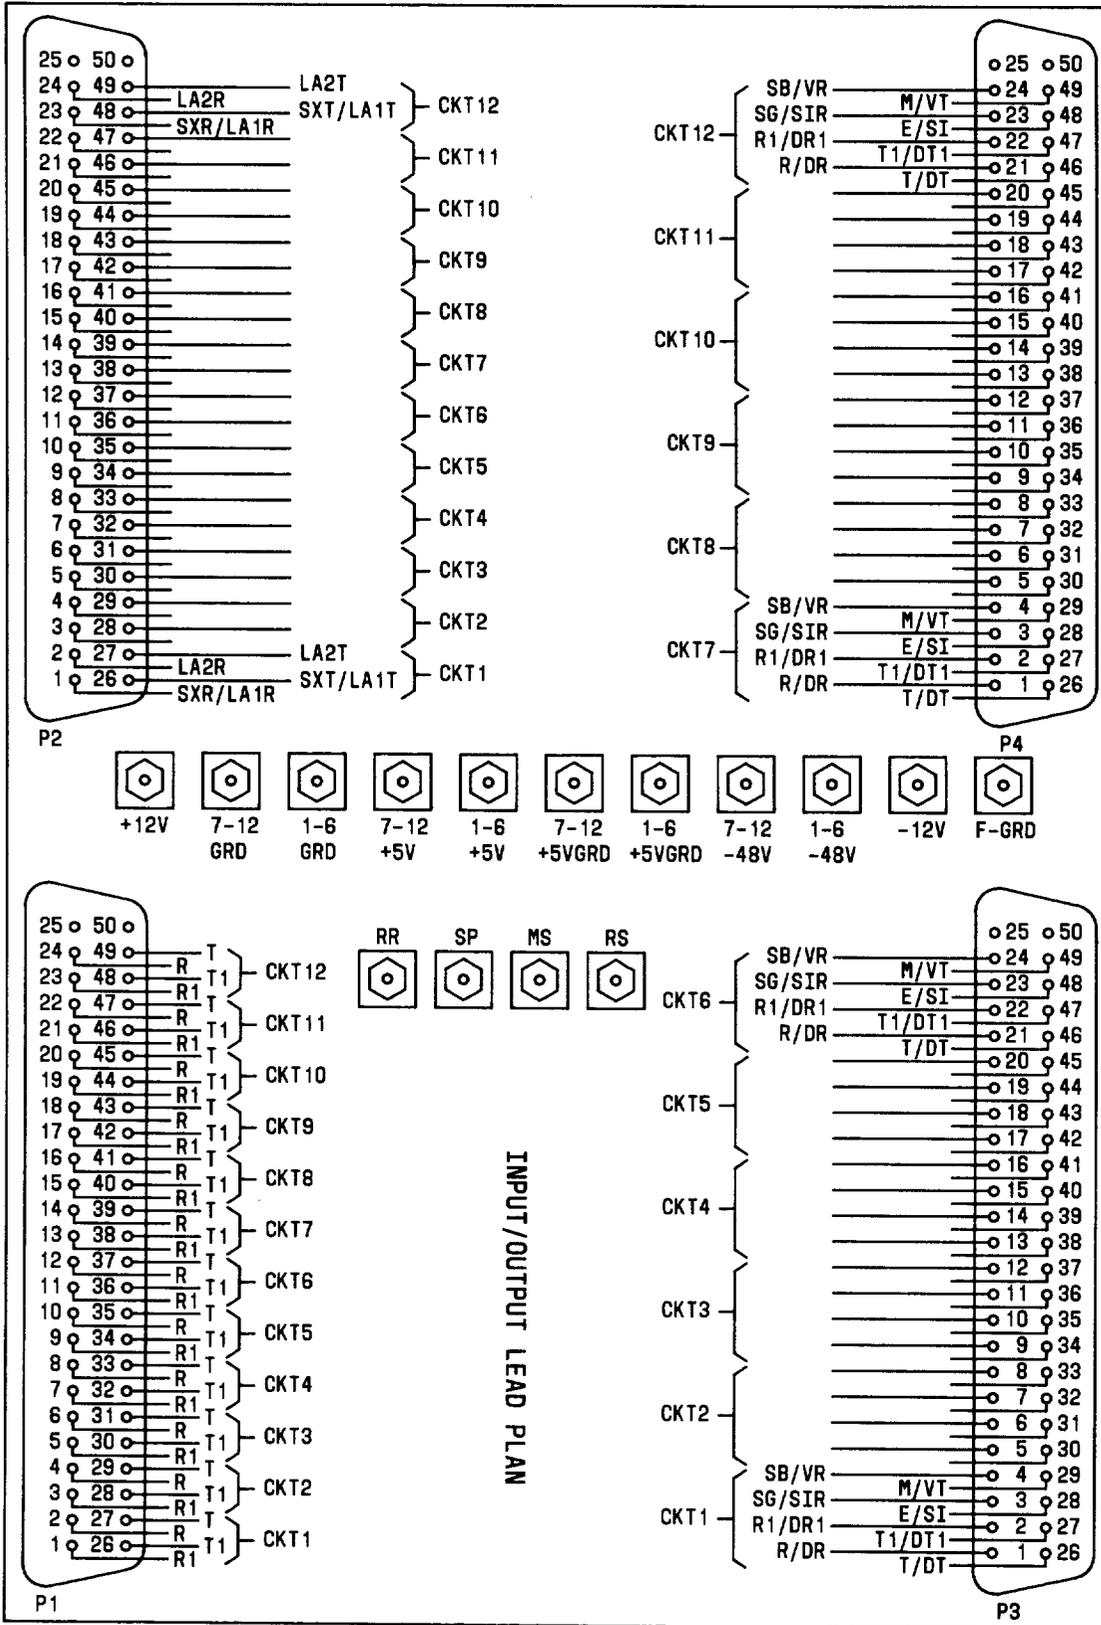
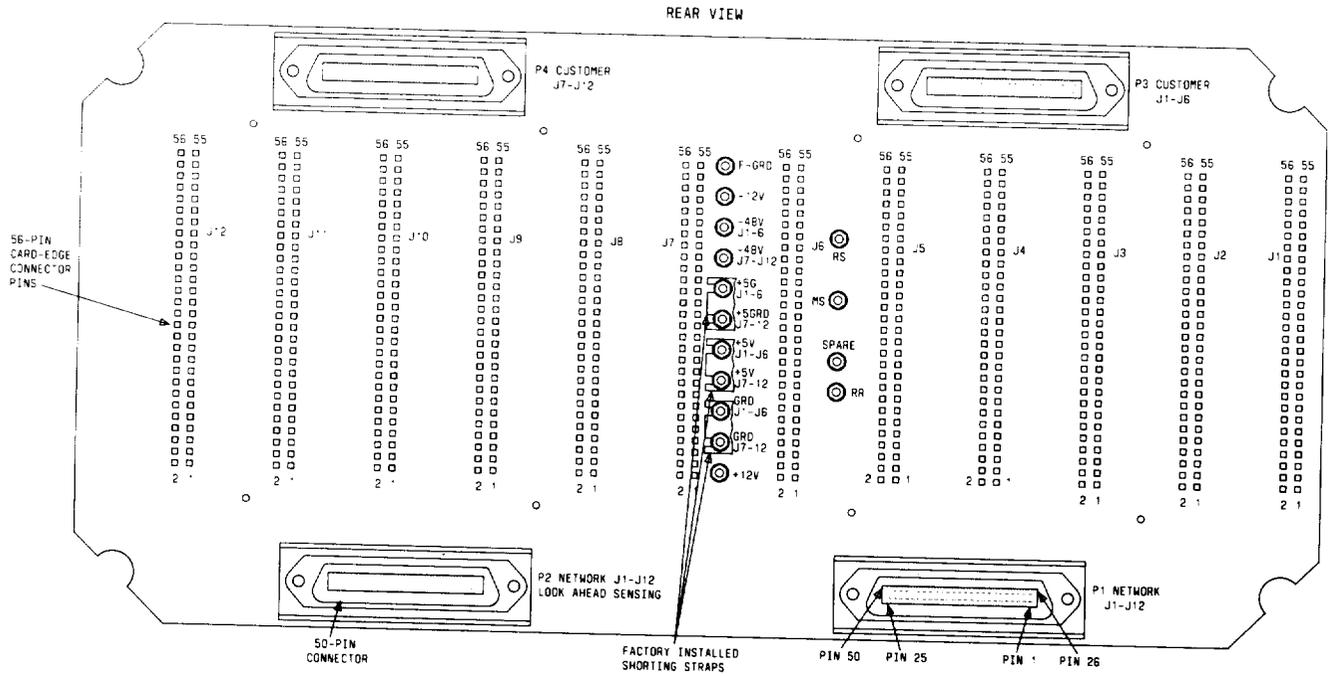
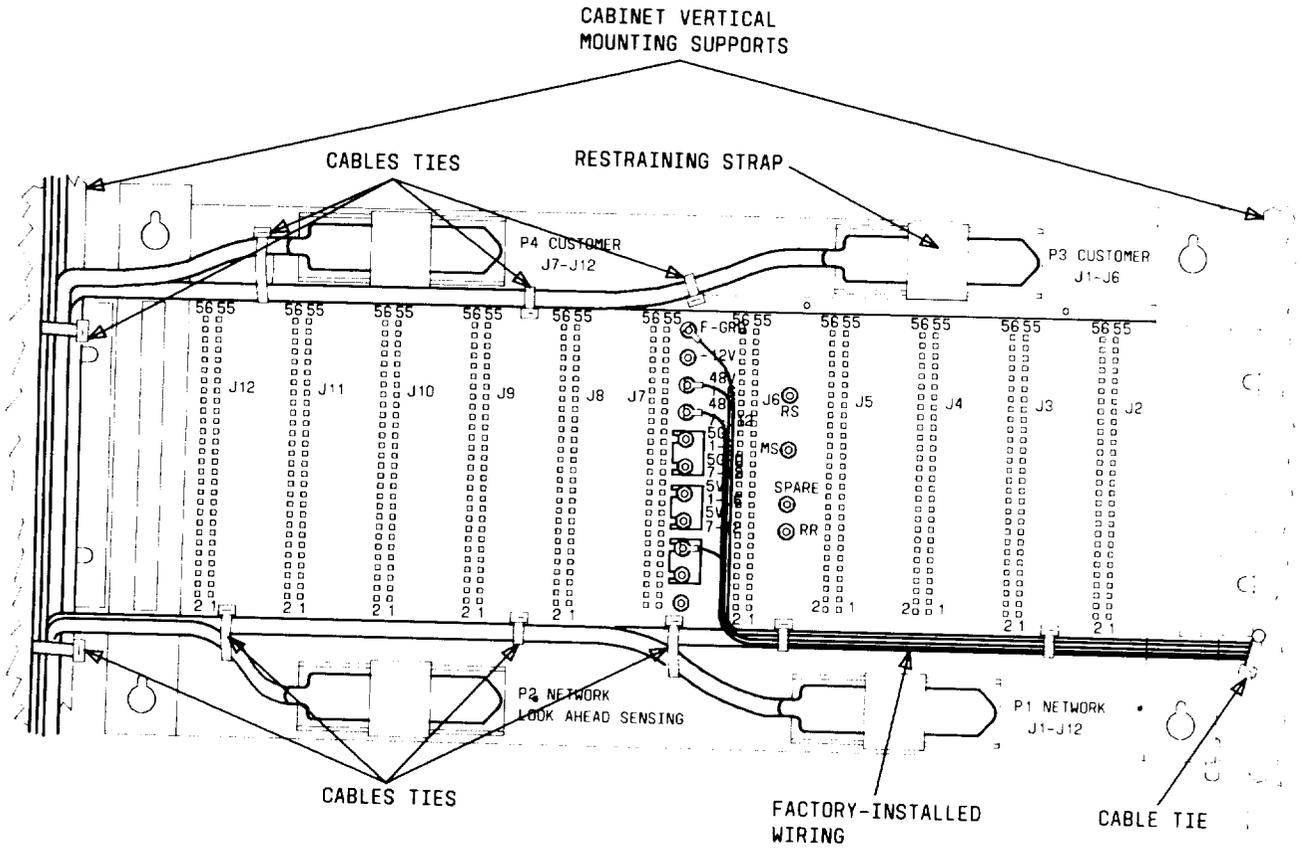

Fig. 2— Shelf Backplane Lead Plan
Fig. 3—Rear View of Shelf Backplane
Fig. 5—Backplane Connections (1 of 4 Shelves)
3.03 Customer and network connections are made using four 50-position miniature ribbon plugs on the backplane of each shelf. A decal showing the backplane lead plan is provided on the inside of both cabinet doors. A copy of the decal is shown in Fig. 2. A rear view of a shelf backplane is shown in Fig. 3. Wire-wrap pins are available on the backplane of each shelf to allow connections to circuit packs that do not match the OMNIPORT NCTE lead plan. The wire wrap pins can also be used to customize the mounting for a particular application.
4.03 Cabling for backplane connections enters through the bottom of the cabinet or through the opening below the rear door and is routed up the left side to the appropriate 50-pin miniature ribbon plugs. Tie cables to vertical mounting supports as shown in Fig. 5.
4.05 Customer equipment connections are made using plugs P3 and P4 on each of the shelf backplanes. Connect customer equipment leads for circuits 1 through 6 to connector P3. Connect customer equipment leads for circuits 7 through 12 to connector P4. Figure 5 shows the connector locations and Fig. 2 shows the connector lead plans. Table B provides an explanation of lead functions.
nect network transmission leads to connector P1. Connect look-ahead sensing leads, if used, to connector P2. (Look-ahead sensing leads are used in some BPT10 maintenance terminating unit applications.) Figure 5 shows the connector locations and Fig. 2 shows the connector lead plans. Table C provides an explanation of the lead functions.
- 4.08** Restrain cables with cable ties as shown in Fig. 5.
Note: The 50-position ribbon connector pin numbers are shown in Fig. 2.
Note: The 50-position ribbon connector pin numbers are shown in Fig. 2. Location of power, ground, and ringing terminals are shown in Fig. 3.